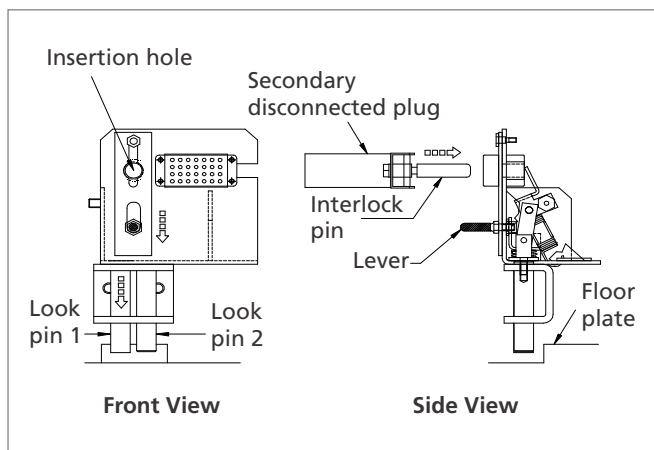

Figure 16 : Incomplete connection of the plug
- Connecting the plug as shown in figure 16 raises the lock pin 1 and breaker can be moved to the connected position.